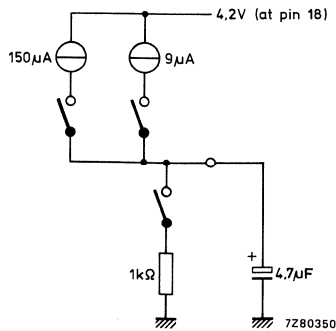

Fig. 8 Timing diagram for search tuning after "search start" instruction (+).
7. The signal sequence "search/stop-release" is only possible if before the search-direction choice was made (positive or negative), the threshold voltage for "stop preparation" was passed (see Fig. 8). For more data of pins 6 and 7, see item a.f.c. amplifier.
8. The circuit responds to pin 18 only in the "search active" mode at the end of the analyzing time; the timing circuit determines the required analyzing time once the "stop-release" threshold is established (see Fig. 8). The circuit responds immediately and independently of the mode to a reset instruction.